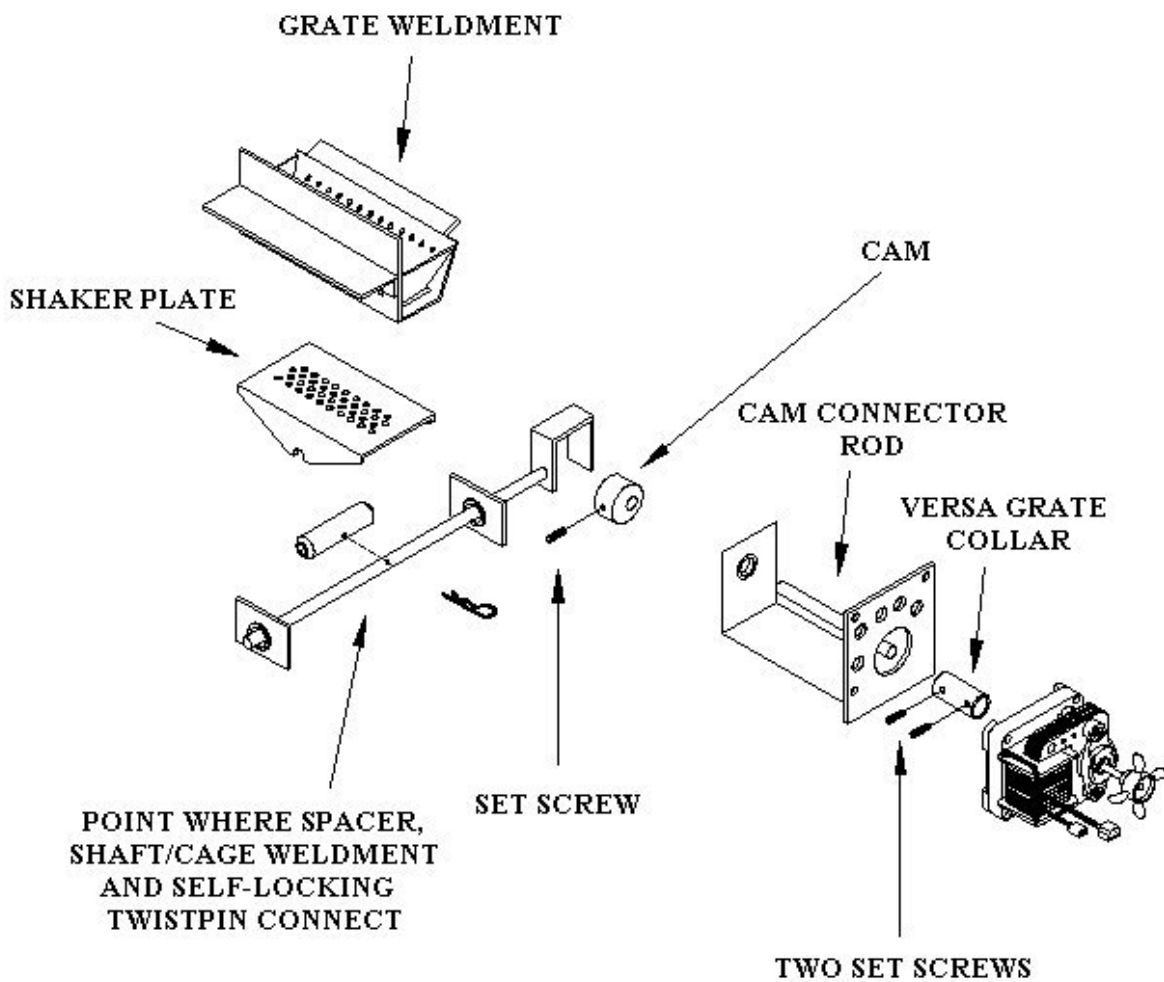

Figure 20
- **Mechanical** – If the motor is running, but the Grate in the stove is not moving back or forth, there may be a problem in the mechanical components. There are 2 areas to look at. (*See figure 20 on page 41 for detail.*)